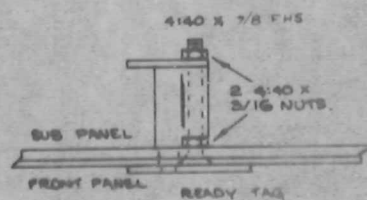

Fig. 5
- () 14. Mount the neon READY light with the 4-40 x 7.8 FHS screw and 4-40 nuts from the kit (see Fig. 5).